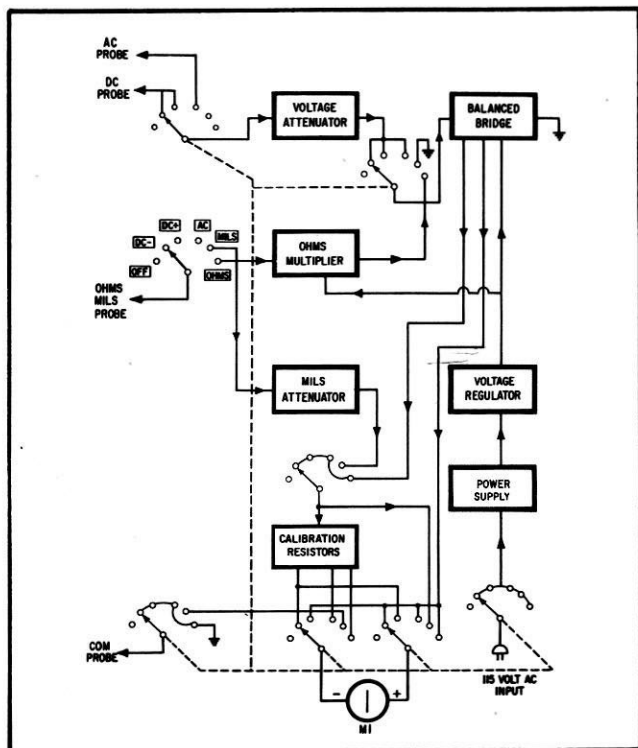

Figure 4-1. Electronic Multimeter AN/USM-116,
a. **GENERAL.** - To understand the principles upon which the operation of Multimeter AN/USM-116 is based, refer to figures 4-1 through 4-8 and to figure 5-3 during the following explanation.
(1) The multimeter can measure ac and dc voltages as well as resistance and current. When measuring ac voltages, the signal is first rectified by the diode in the probe. The signal must be rectified because the meter circuit is sensitive only to dc voltages. When dc voltages are measured, the AC probe containing the diode rectifier is not needed.
(2) The dc or ac voltage to be measured is applied across a voltage-divider network so that the total input impedance of the multimeter remains constant when the position of range switch S2 is changed for various levels of input voltage.
(3) The meter is connected across a balanced bridge network. With no input, the bridge circuit is balanced and the meter reads zero. When the bridge is unbalanced by an input voltage, the meter pointer is deflected up-scale. The extent of deflection is in proportion to the strength of the input voltage. The